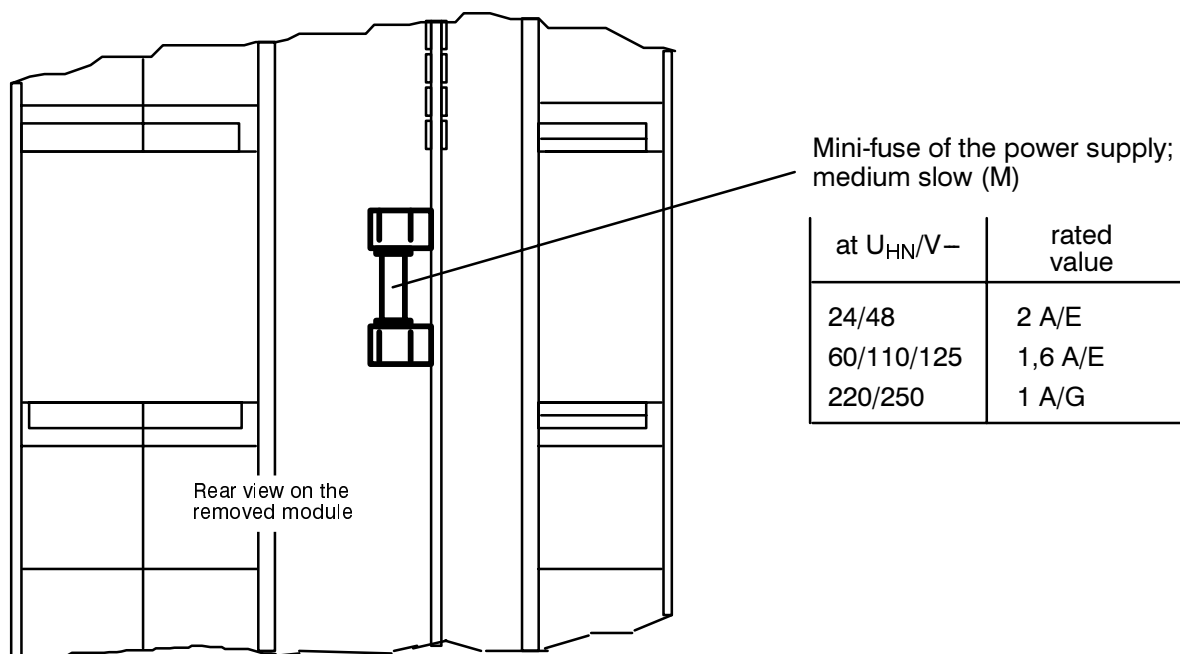

Figure 7.2 Mini-fuse of the power supply
- Has the mini-fuse in the power supply section blown (see Figure 7.2)? If appropriate, replace the fuse according to Section 7.3.1.
- Select a replacement fuse 5×20 mm. Ensure that the rated value, time lag (medium slow) and code letters are correct. (Figure 7.2).
- Remove blown fuse from the holder (Figure 7.2).
- Fit new fuse into the holder (Figure 7.2).